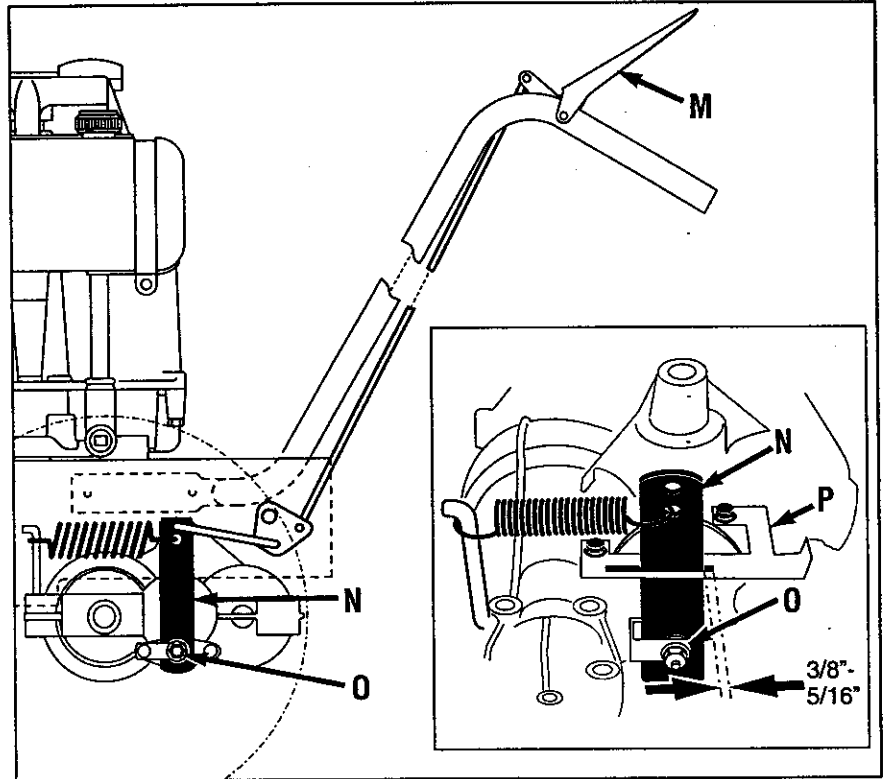

Figure 5-13: Wheel brake adjustment.
2. Disengage (release) the Operator Presence Control (M, Figure 5-13).
3. Slowly adjust at nut (O), if necessary, until the distance between the back of brake arm (N) and bracket (P) is  $3/8''-5/16''$ . Use small adjustments ( $1/4$  turn maximum). NOTE: It may be necessary to relieve spring tension when decreasing distance. To do so, have an assistant engage the Operator Presence Control while you adjust the nut.
3. Hold down Operator Presence Control (M, Figure 5-13) and push unit forward and backward. Unit should move freely. If not, continue with Step 4.